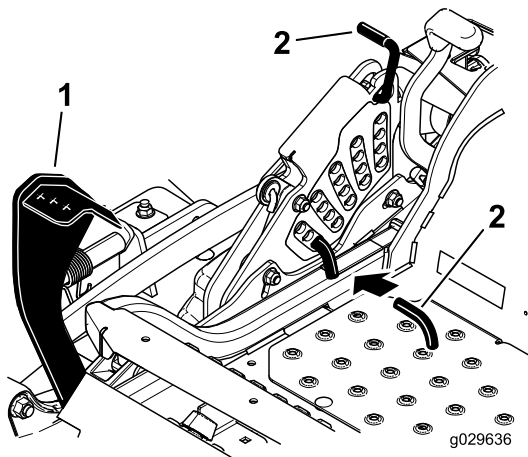

Figure 27
2. Push on the deck-lift pedal with your foot and raise the mower deck to the transport position (also the 140 mm (5-1/2 inch) cutting-height position) (Figure 27).
3. To adjust, rotate the pin 90 degrees and remove the pin from the height-of-cut bracket (Figure 27).
4. Select a hole in the height-of-cut bracket corresponding to the height-of-cut desired and, insert the pin (Figure 27).